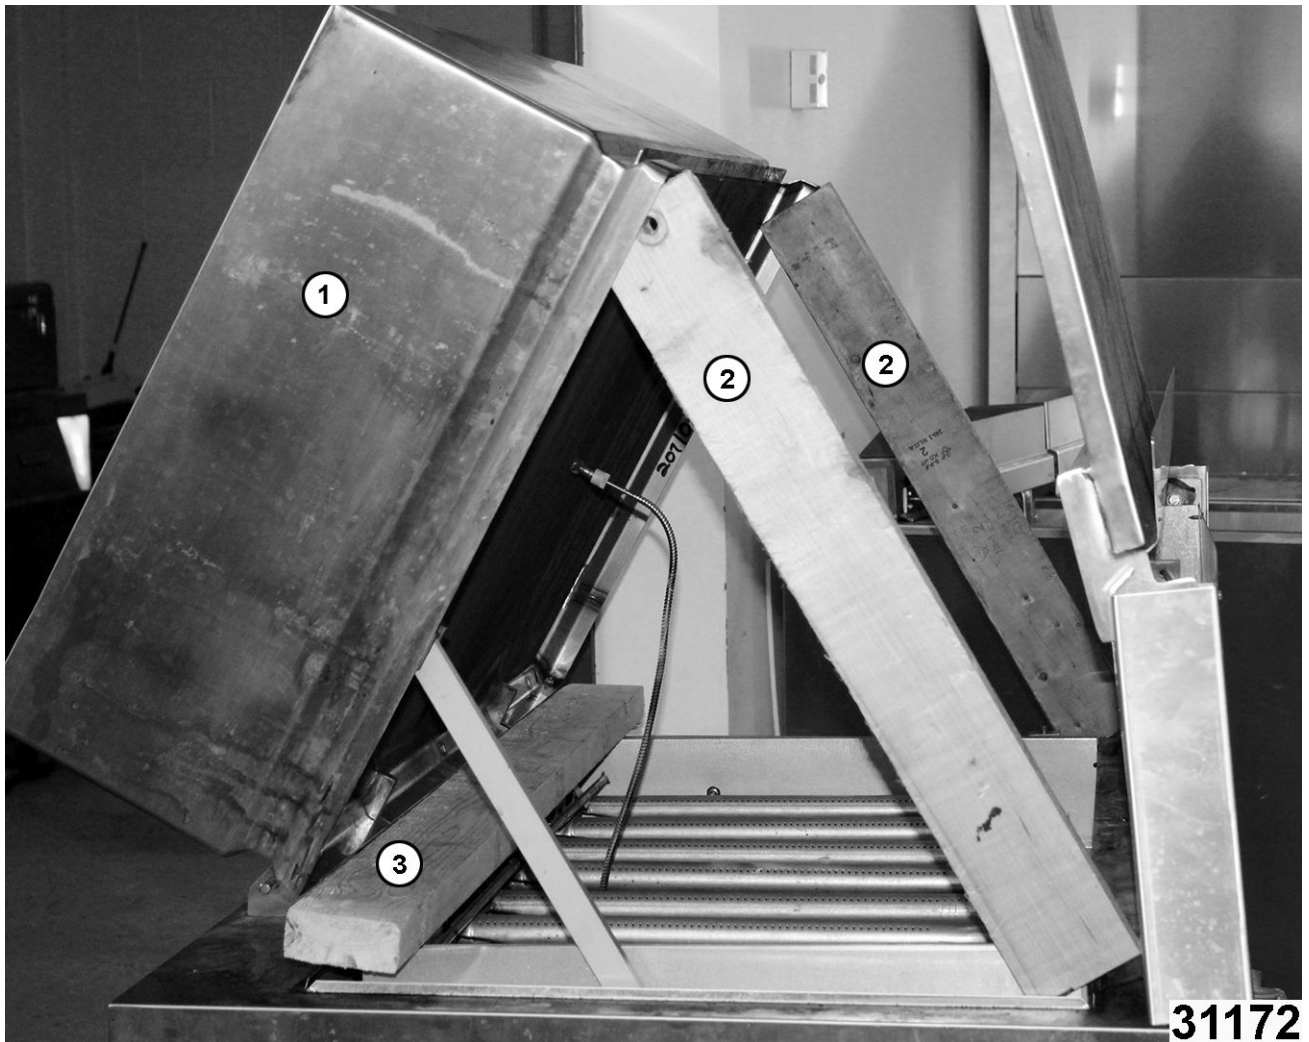

Fig. 35
- A. Block braising pan (1, Fig. 35) with two 25" long wood blocks (2" x 4") (2, Fig. 35), one at each end.
- B. Place 2"x4" wood block, 36 inches long for VG30 models, 44" for VG40 models , (3, Fig. 35) across front of braising as shown.